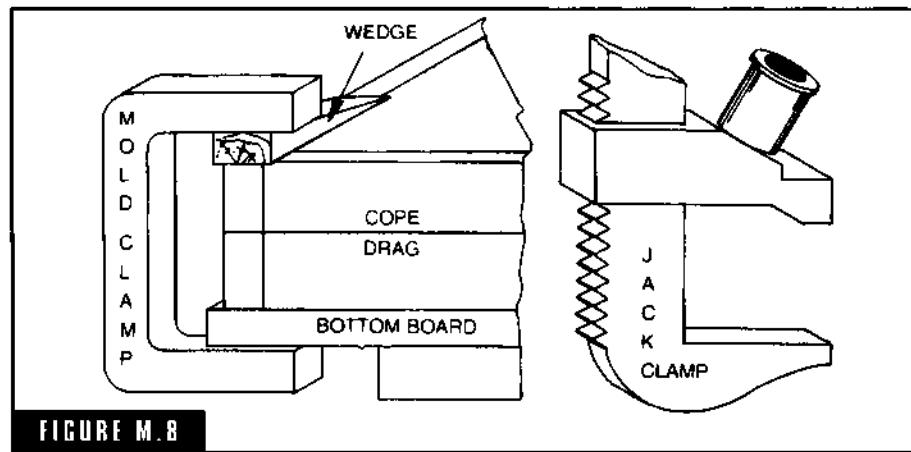

FIGURE M.8
**mold clamps** Floor molds are always clamped to pour. Sometimes they are weighted, sometimes not, but always clamped (Fig. M-8). There are two basic types of clamps used.